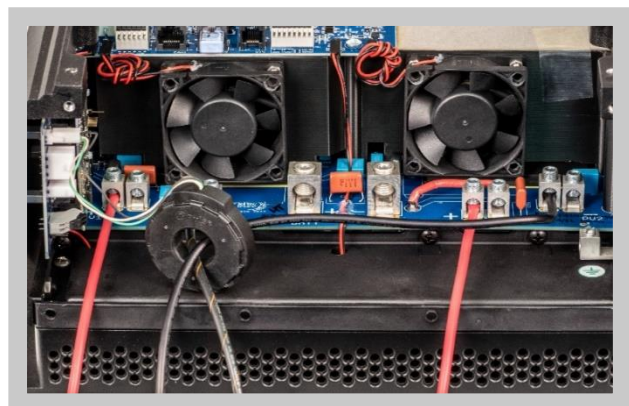

Figure 10
3. Pass both **PV-** wires through the AF toroid, as shown in **Figure 10**.